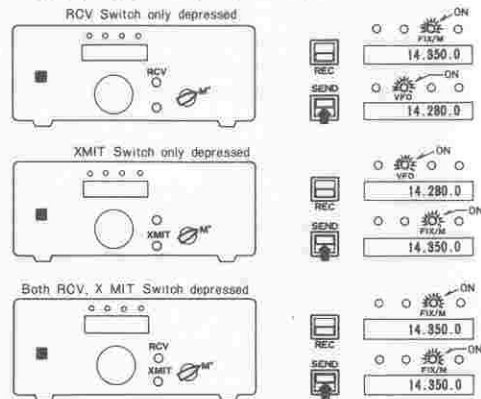

Fig. 8
**RCV/XMIT SWITCH OPERATION** (See Fig. 8) These switches are provided to select either the built-in VFO, memory channels or the fixed channel.